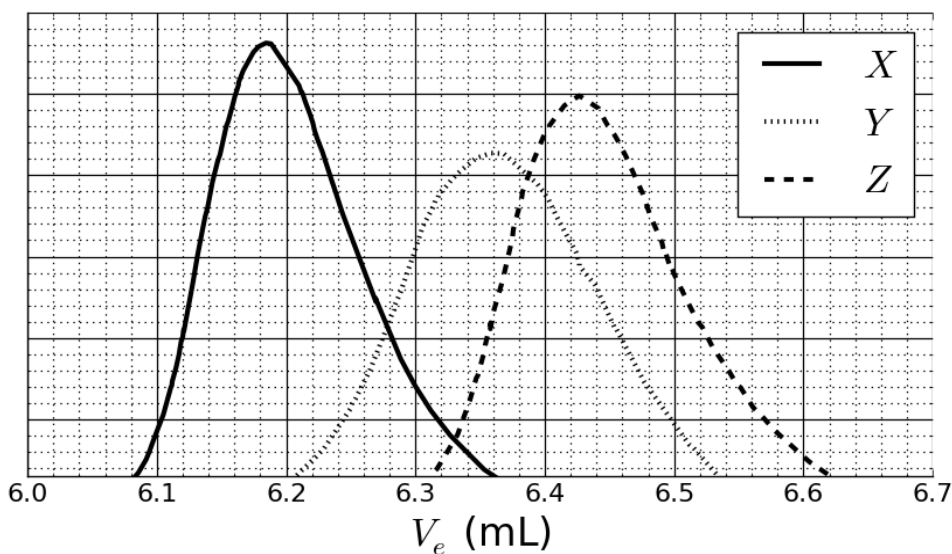

Fig. 2 – SEC chromatograms of **3a**, **3b** and **3c** as a function of the elution volume, V_e .
This reaction of **1** with **2** yielded the copolymers **3a** (after 20 h), **3b** (after 25 h), and **3c** (after 30 h) at a temperature of 40 °C. Results of size-exclusion chromatography (SEC) experiments are presented in Fig. 2.
6. **Match** the curves in Fig. 2 with the copolymers **3a**, **3b** and **3c**.
7. Based on the SEC curves in Fig. 2 and 3, **determine** V_e of the polymer that corresponds to curve X and use it to **estimate** the degree of polymerization m of its second block. **Detail** your calculation; you may use a calculator or plot a graph.